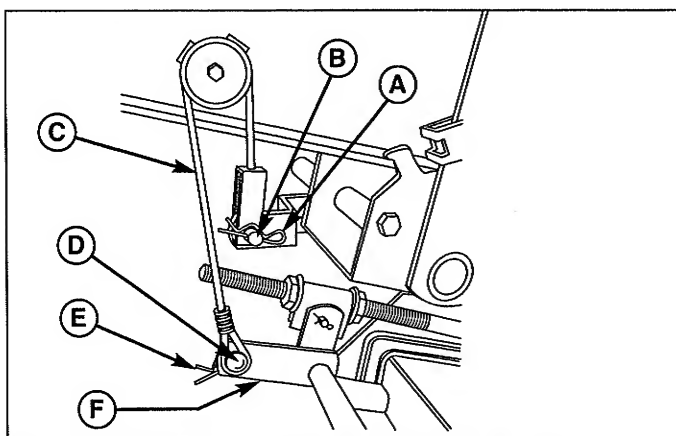

Figure 9. Mower Lift - 50" Manual Lift Models
- 50" Manual Lift Models:** Disconnect the mower lift cables (C, Figure 9) from the mower lift arms (F). Re-install the clevis pins, washers and hairpin clips for storage.